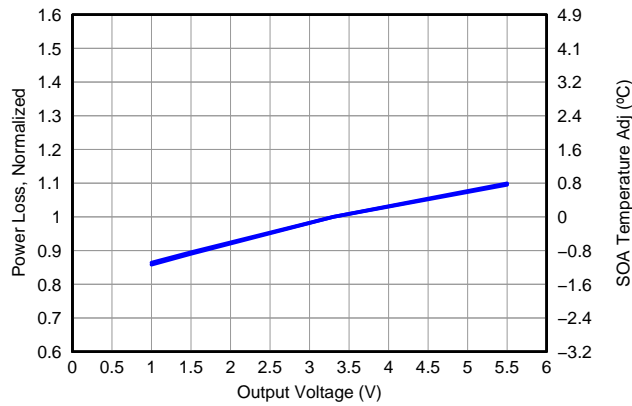

Figure 8. Normalized Power Loss vs Output Voltage
- Normalized power loss for output voltage ≈ 0.9 (Figure 8)
- SOA adjustment for output voltage $\approx -0.8^\circ\text{C}$ (Figure 8)